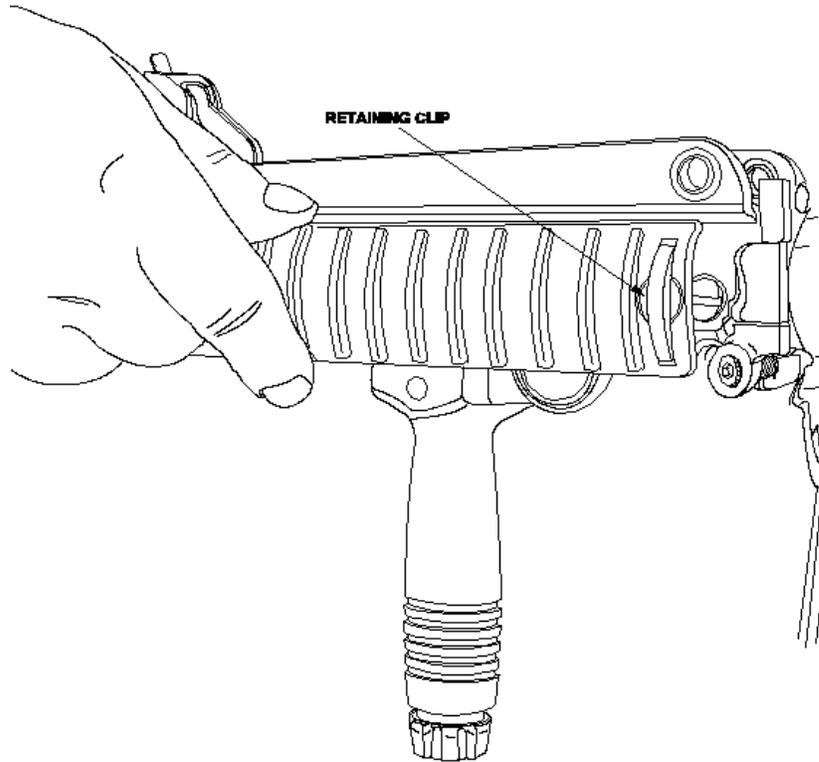

Figure 7
(Figure 7) Rail covers are quickly attached and detached from the adapter rail. A retaining clip at one end of each rail cover automatically engages cutouts positioned at either end of the three rail sections. To slide a rail cover beyond a cutout, or to remove it, slide it in the desired direction while applying thumb pressure to the retaining clip. Illustration above shows rail cover in full rearward position.
(9) (Figure 7) To cover both side rail surfaces, install the rail covers from the muzzle end of the adapter rail with the retaining clip forward. To cover the bottom rail surface, install from the rear with the retaining clip forward.
(10) Replace the barrel assembly back into the receiver. Take the safety off. Pull the trigger by holding the charging handle back to allow the bolt to go forward.
**13. QUALITY ASSURANCE REQUIREMENTS.** Report all defects in material or workmanship on a Product Quality Deficiency Report (QDR) utilizing the Army Electronic Product Support (AEPS) web site: <http://aeps.ria.army.mil/>. If assistance is needed in submitting the QDR in AEPS, contact (309) 782-7698 or DSN 793-7698. Alternately, QDRs may also be recorded on a SF368 (be sure and include your e-mail address) and mailed to RDECOM-ARDEC, ATTN: AMSRD-AAR-QEP-C, 1 Rock Island Arsenal, Rock Island, IL 61299-7300. You may also e-mail a SF 368 and submit to: QAWQDRS@ria.army.mil, or fax to (309) 782-6653 or DSN 793-6653.